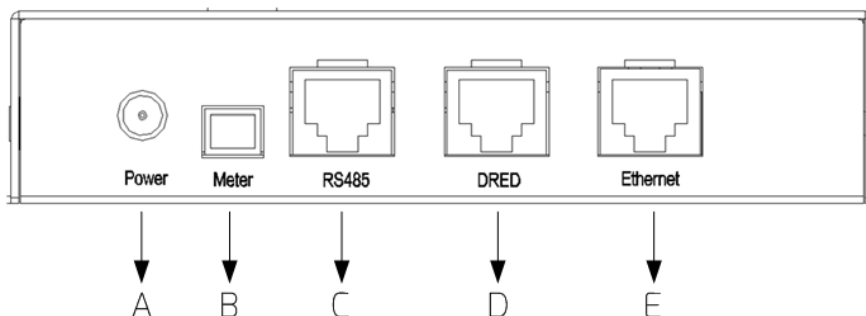
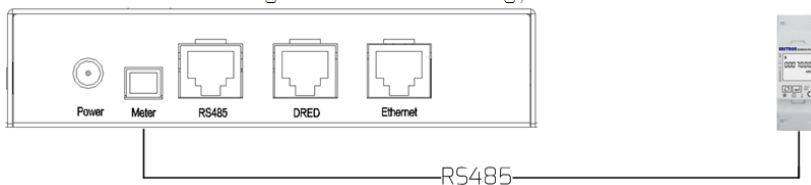

Fig. 5-1: Overview of the connection area
Fig.5-5: Connection Energy Meter
Connect the power supply unit to the Power socket (Item A in Fig. 5-1). Plug the other end into a power outlet, and check that the power LED light turns on as shown in Fig. 3-1(LED indicator panel).
Step 2: Connect the inverter closest to the ZeverCom/ZeverCom WiFi to the RS485 port of the ZeverCom/ZeverCom WiFi (Item B in Fig. 5-1) as shown in Fig. 5-2.
1. The RS485 port between the ZeverCom/ZeverCom WiFi and the inverter (Item C in Fig. 5-1) uses the RJ45 socket. Please make sure to use the correct port.
The energy meter has to be connected to the Meter port of ZeveCom/ZeveCom WiFi (Item B in Fig. 5-1), as shown in Fig. 5-5.
The ZeverCom/ZeverCom WiFi is connected to the network by simply connecting the network cable from the router to the Ethernet port of ZeverCom/ZeverCom WiFi (Item E in Fig. 5-1), as shown in Fig. 5-8.